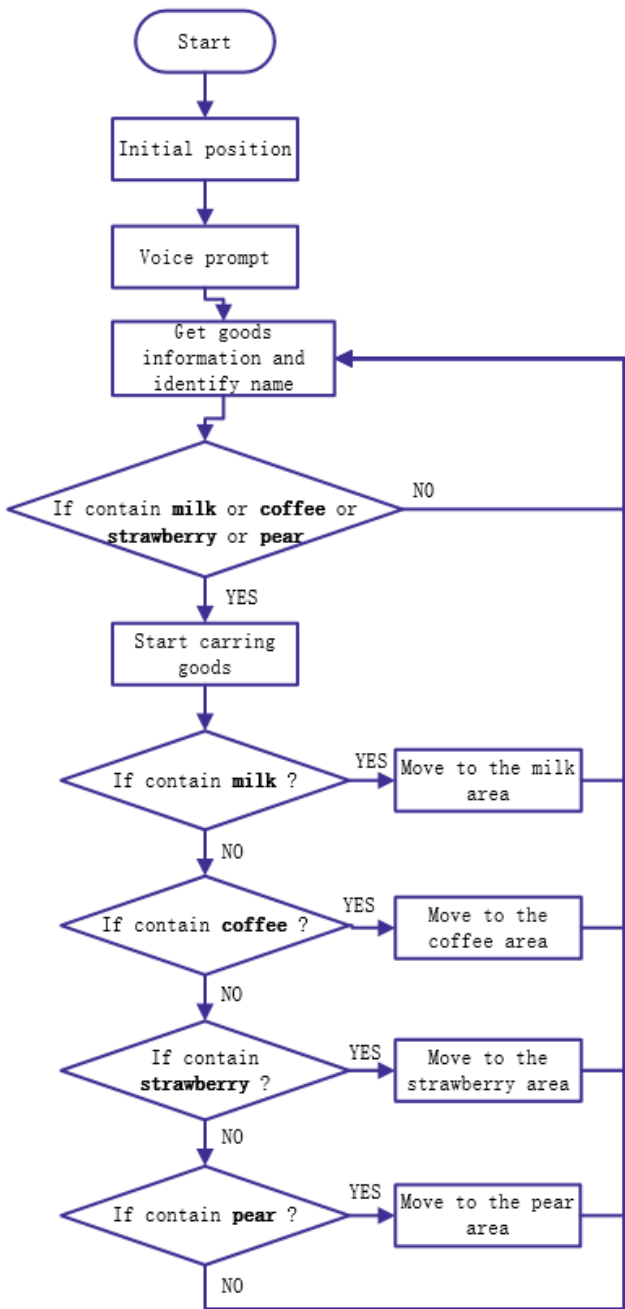

Figure 1.3 The flow diagram of warehousing goods system
Step 1: Read the flow diagram of warehousing goods, as shown in Figure 1.3.